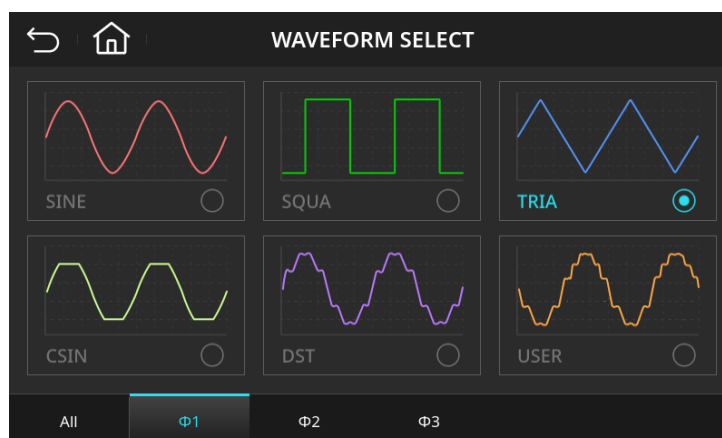

Figure 4-49: Output Waveform Selection Page (Three-Phase Output Waveforms ($\Phi 1$, $\Phi 2$, $\Phi 3$) Set to Triangle Wave (TRIA))
3. On the Waveform Select page, tap  and then press . As shown in Figure 4-49, the three-phase output waveforms ($\Phi 1$, $\Phi 2$, $\Phi 3$) have been changed to Triangle Wave (TRIA).